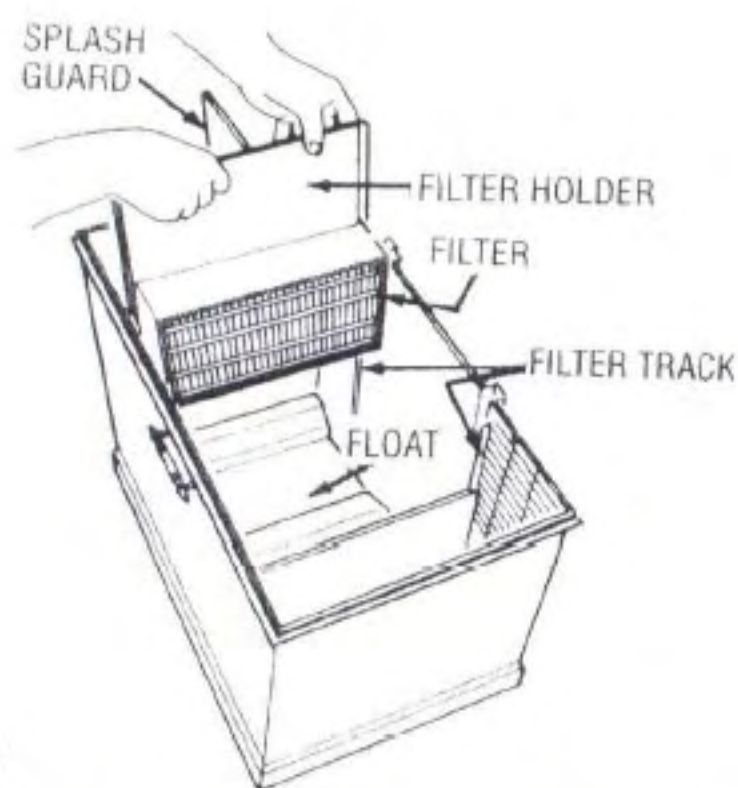

Figure 13
<ul style="list-style-type: none"> Filters have not absorbed enough water (initial start up only). Sudden change in room temperature or humidity. Filter holder is stuck. 	<ul style="list-style-type: none"> Turn off and wait 15 minutes and restart. Turn unit OFF and restart. Remove filter holder and install on filter tracks. (Page 7, Figure 13).
Slide up the filter holders and remove (either discard or store for further use) the filters located inside by gently pushing out from either side (Figure 13). Wash off mineral deposits on filter holder and wipe with a clean cloth.
5. Each filter is enclosed in a filter holder. Lift out the entire holder (Figure 13) to gain access to the filter.
6. Replace the filter (in holder) in the humidifier tank by lining up rear slot on filter holder frame with track on tank. Tilt holder toward rear and lower unit front tab lines up with front slot on filter holder (See Figure 13).